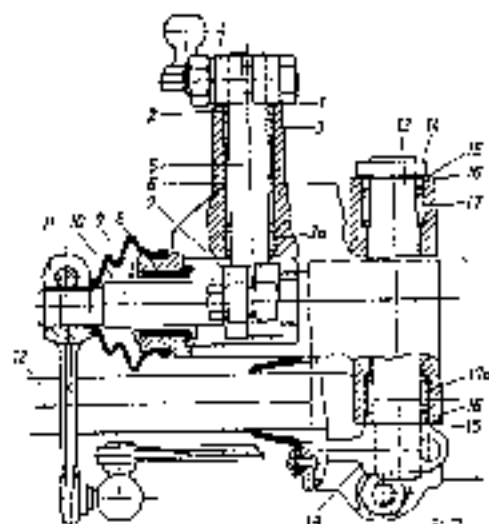

Fig. 26-2/1
The relay shaft (13) should have no end play in the bearing assembly. Replace the washers (15) by 0.6 mm spring washers, Part No. 121 990 00 48. It is imperative that the lever (14) should be firmly seated in the splines of the relay shaft (13). Loose levers should be electrically welded to the shaft. In order to ensure that the relay shaft has no end play whatsoever in the bearing assembly, the lever (14) and the relay lever (18) should be pressed against the bearing assembly by means of Clamping Device 180 587 05 31. Tighten the clamping screw in the relay lever (18) with the lever in this position. It is not sufficient to compress the levers by hand since this would not produce the required initial tension of the spring washers (Fig. 26-2/1).